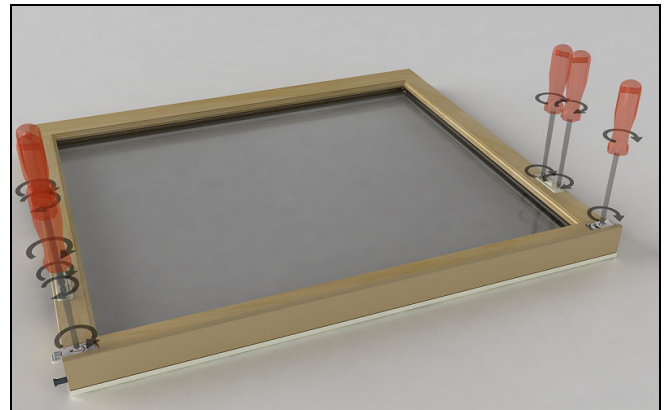

Figure 4
5. Remove jig and clean out any debris from the sash. Install the locking latches and window opening control device. See Figure 4.